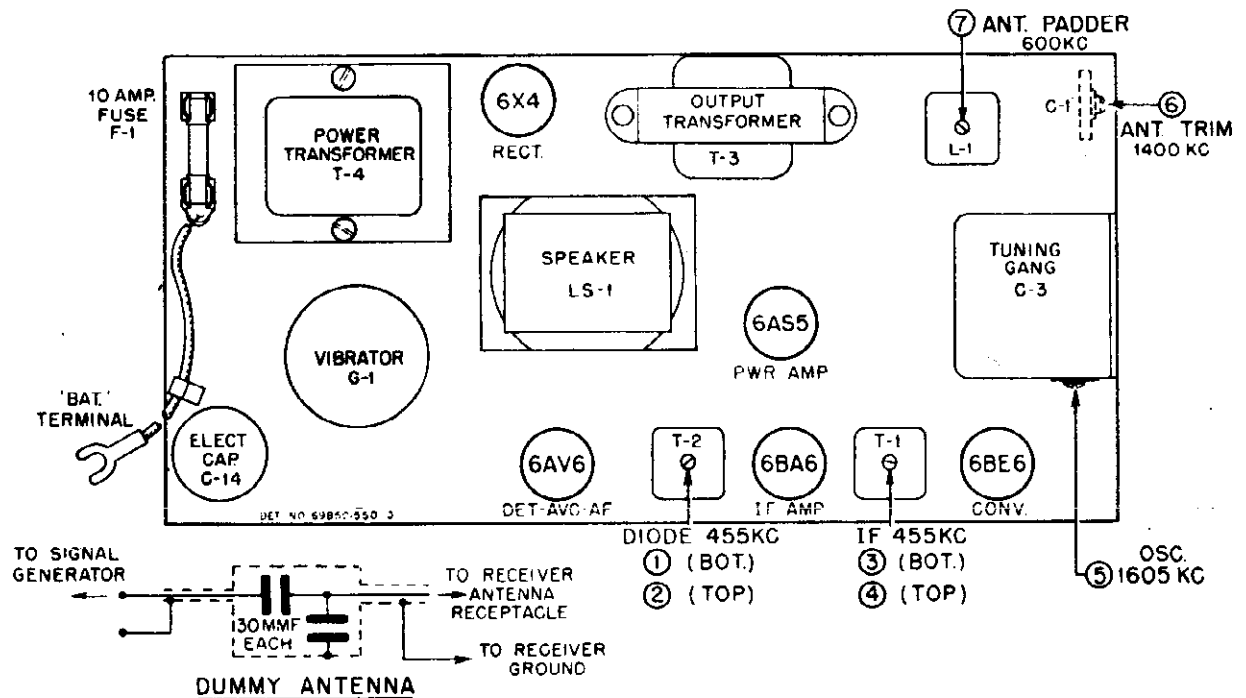

FIGURE 2. TUBE & TRIMMER LOCATION AND DUMMY
4. A special dummy antenna for RF alignment. Construct dummy antenna as shown in Figure 2.